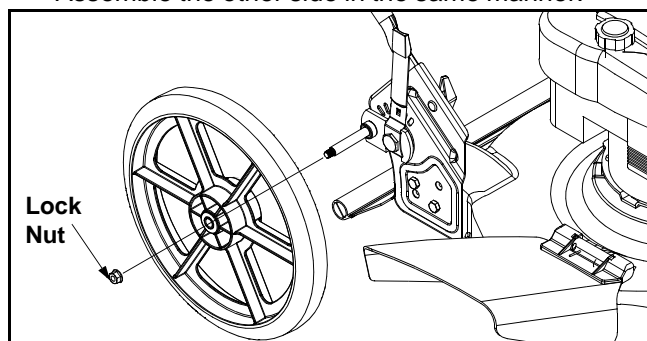

Figure 7
- Remove lock nut from pivot arm assembly, slide wheel, with hollow side in, onto axle and secure with lock nut. See Figure 7.